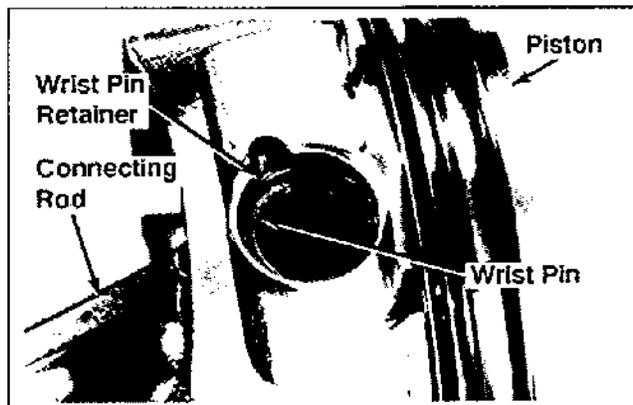

Figure 9-42. Removing Piston From Connecting Rod.
1. Remove the wrist pin retainer and wrist pin. Separate the piston from the connecting rod. See Figure 9-42.